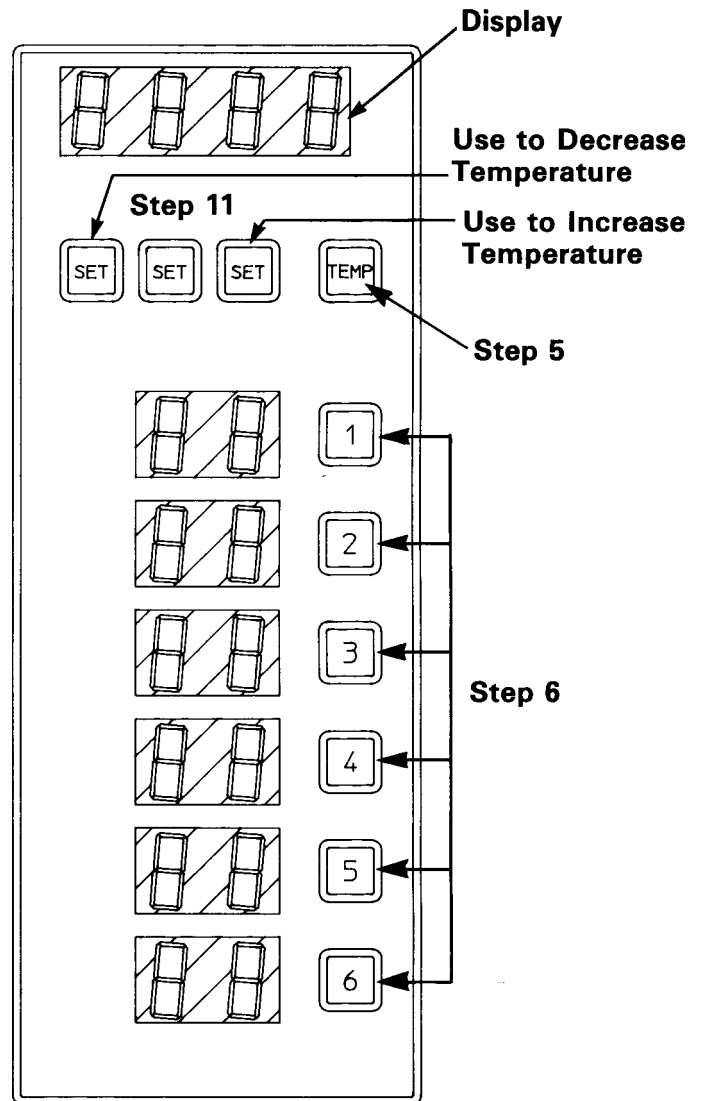

Figure 2
5. Press and hold the temp button for 10 seconds. The display should be flashing the word "CAL b". (See Figure 2)
10. Use the SET buttons located below the temperature display (Figure 2) to set the displayed temperature so that it is the same as the temperature reading on the digital thermometer.
11. Use the right-most SET button to increase the temperature and the left-most SET button to decrease the temperature (see figure 2). A maximum of 50° F (33° C) correction can be made to the original temperature reading.